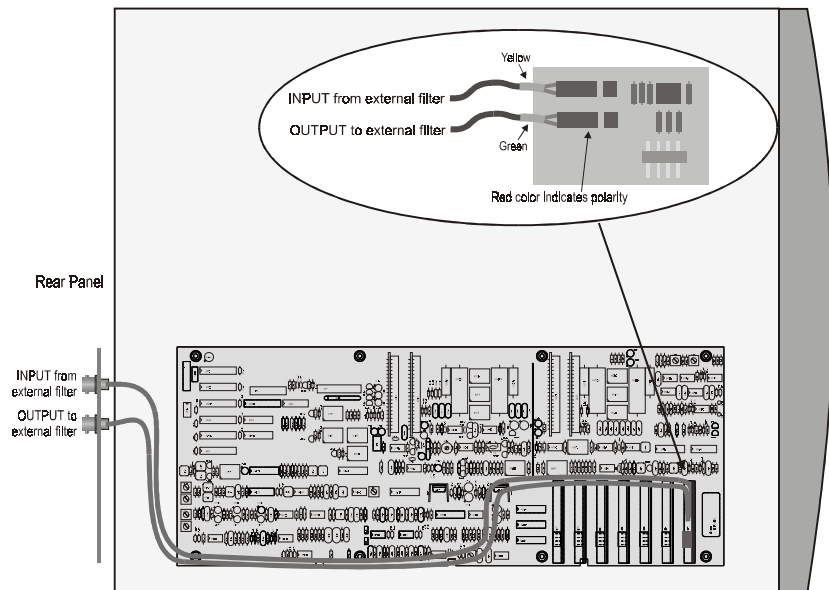

Figure 2. Installation of external filter interface in System Two
6. Connect and dress the cables as shown in Figure 2. Note that the clear-insulated center leads go on the pins closest to the bottom of the board.
7. Install the interface adapter in any position. Figure 2 shows it installed in position #7. Make sure that all eight pins engage the socket properly.